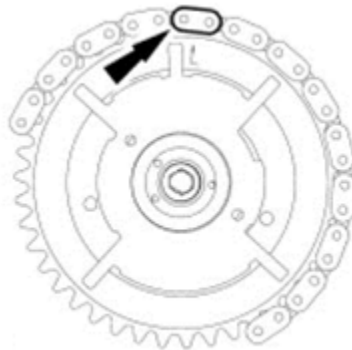

Figure 5 – LH Timing Chain Alignment On Sprocket
6. Position the LH Timing chain on the camshaft sprocket and make sure that the sprocket timing mark is aligned with the colored (marked) chain link as show in Figure 5.